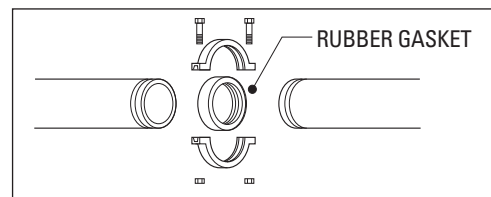

FIGURE 3
- Place the clamps around the gasket and tighten slightly. (See Figure 3)